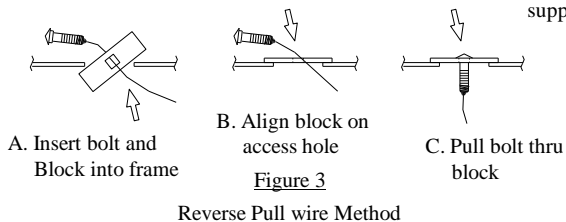

Figure 3
- Remove the rubber plug from bottom from both frame rails. Detach vehicle wiring plastic fasteners from around frame rail (3) places each side, using a screwdriver, trim panel tool or pliers.
- Remove M14 bolts on the outside of both frame rails (2) each side. Return to owner.
- Install small bracket as shown in figure (2) with of the M14 bolts and conical washer with the fasteners supplied. Both sides.
- Remove the M14 bolts (1) each side from the bottom of frame rail. Install the carriage bolt and spacer into the square hole in the frame rail using the reverse pull wire process (leave pull wire attached). See Figure 3. Assemble the remaining M14 bolt, conical washer and spacer and start the threads into bumper bracket.